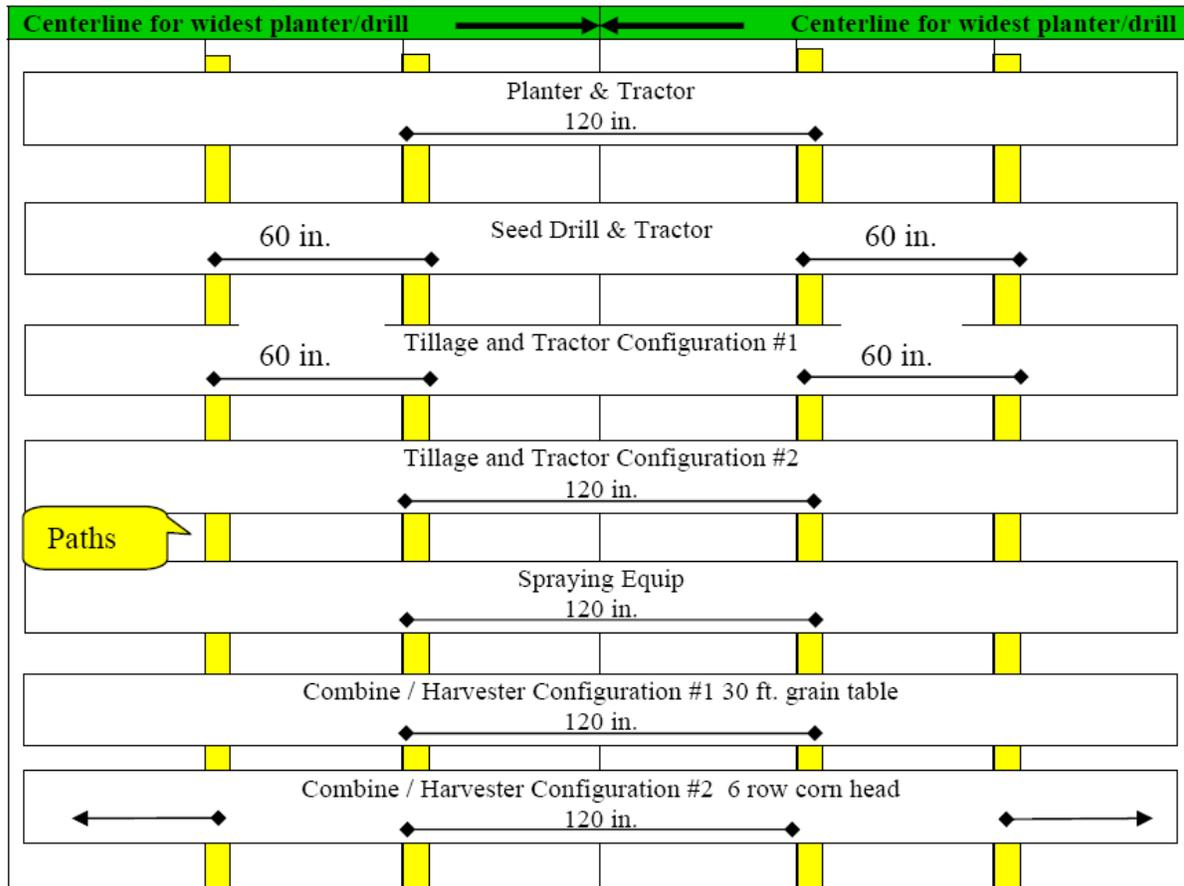

Figure 1. Example of Wheel/Track Spacing and Paths Using Multiples of the Basic Width (units are in inches or number of rows):
1. All equipment must cover the same width or multiples of that width (See Figure 1)